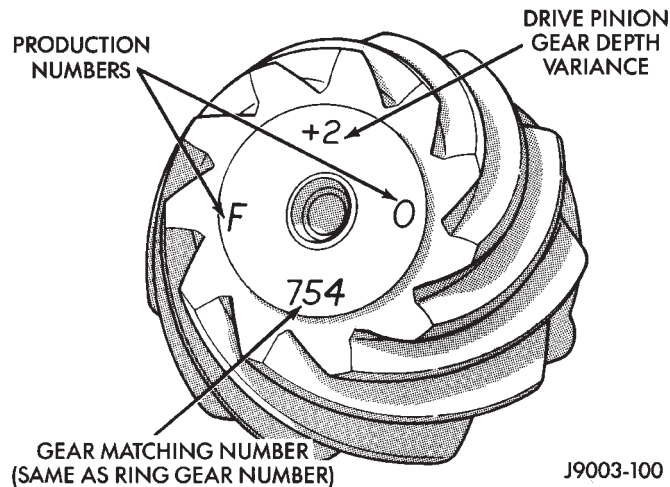

Fig. 54 Pinion Gear ID Numbers
Ring and pinion gears are supplied as matched sets only. The identifying numbers for the ring and pinion gear are etched into the face of each gear (Fig. 54). A plus (+) number, minus (-) number or zero (0) is etched into the face of the pinion gear. This number is the amount (in thousandths of an inch) the depth varies from the standard depth setting of a pinion etched with a (0). The standard setting from the center line of the ring gear to the back face of the pinion is 96.8 mm (3.813 inches) for Model 44 axles. The standard depth provides the best teeth contact pattern. Refer to Backlash and Contact Pattern Analysis Paragraph in this section for additional information.